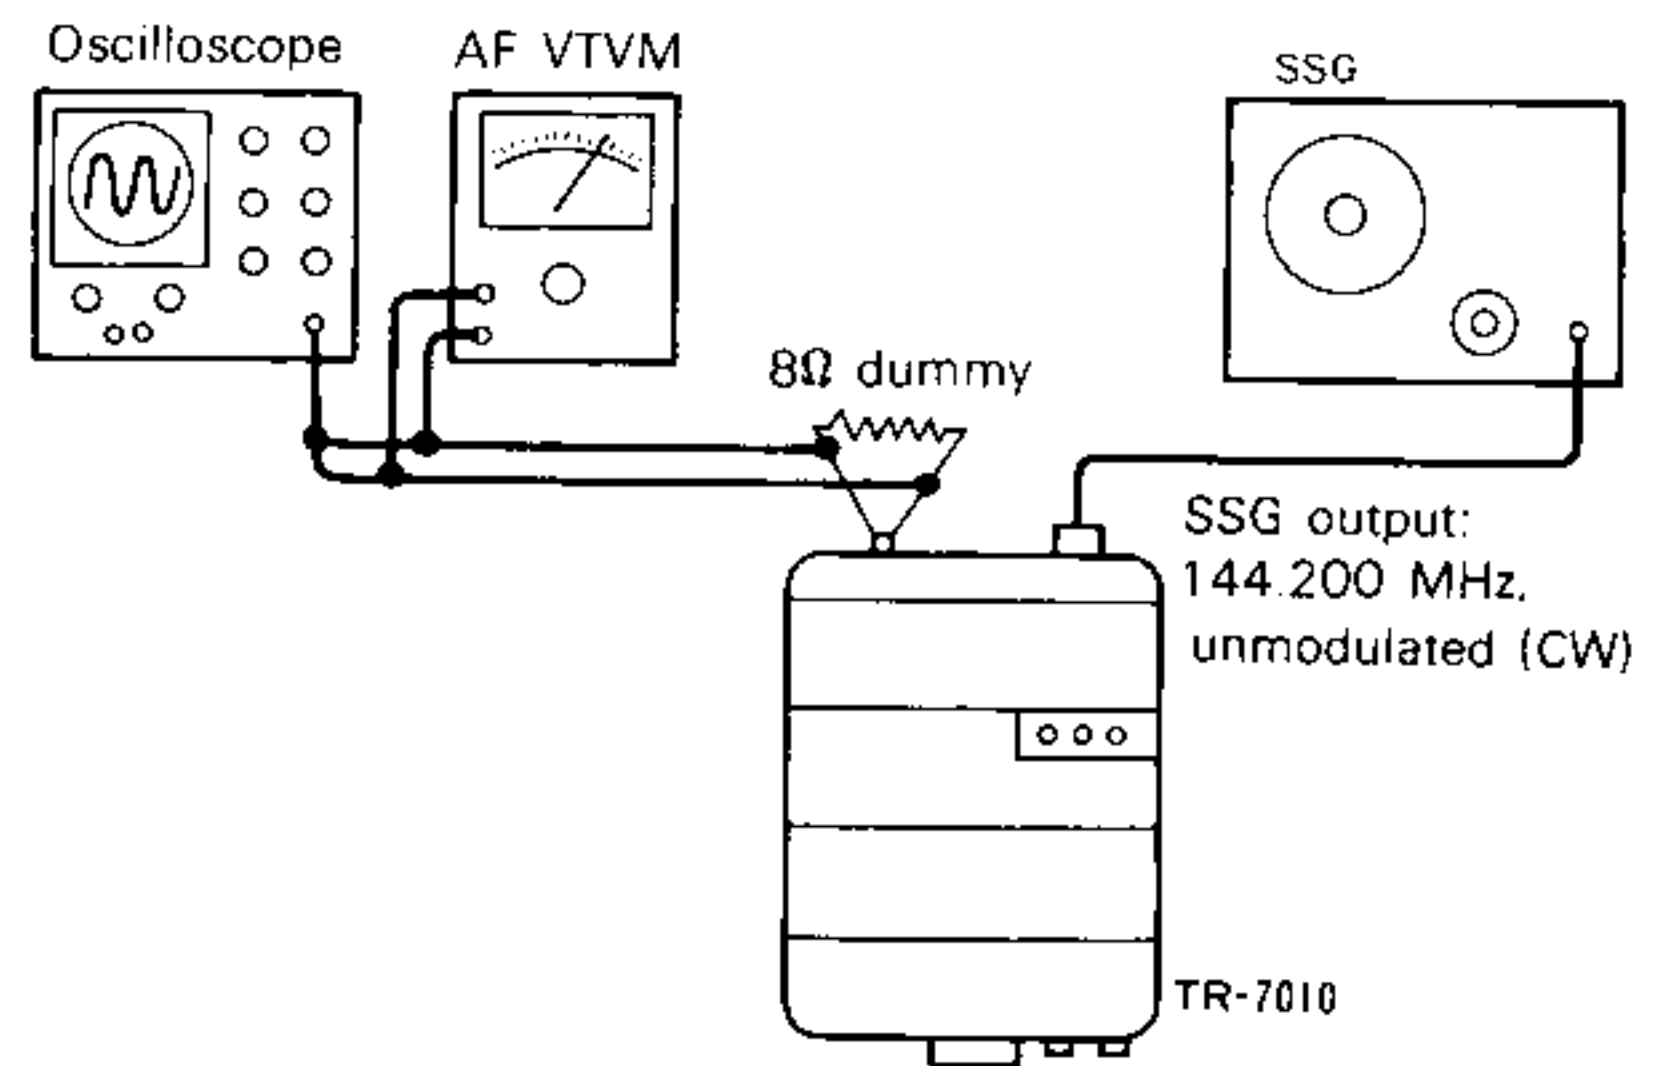

FIG. 16 RECEIVE SENSITIVITY ADJUSTMENT
(1) Connect the measuring instruments as shown in Fig. 16.